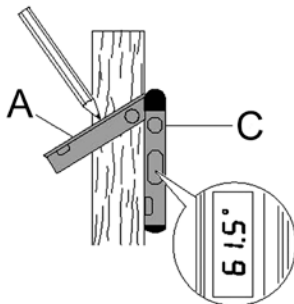

Fig. 3
Measure the angle and note the angle displayed in the LCD screen (G) move the angle finder to the workpiece without moving the fold-out arm (A) or base (C). Check that the angle reading is the same and mark the workpiece (Fig. 3).
When the workpiece is ready, turn the angle finder on again and adjust the fold-out arm until the LCD screen reading matches the recorded angle. Place the angle finder on the workpiece and mark the angle (Fig. 3).